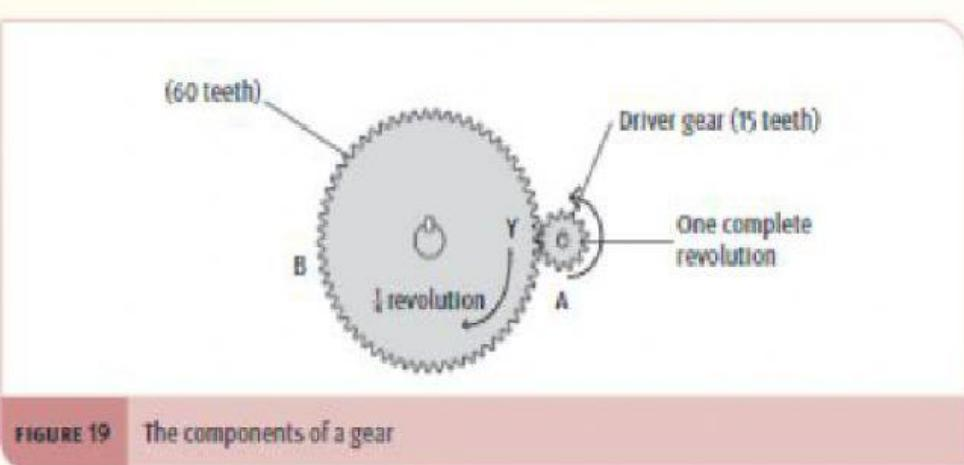

FIGURE 19 The components of a gear
- 5 Do the gears in FIGURE 19 turn in the right direction? Yes or no?